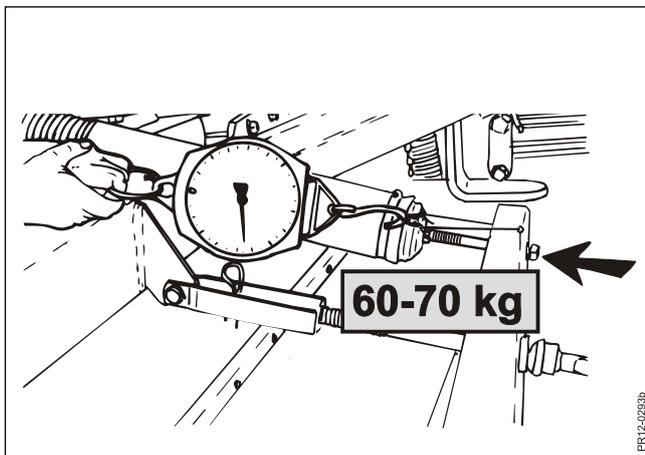

Fig. 3-15
- Fig. 3-15** Start with **approx. 60-70 kg** on each side.